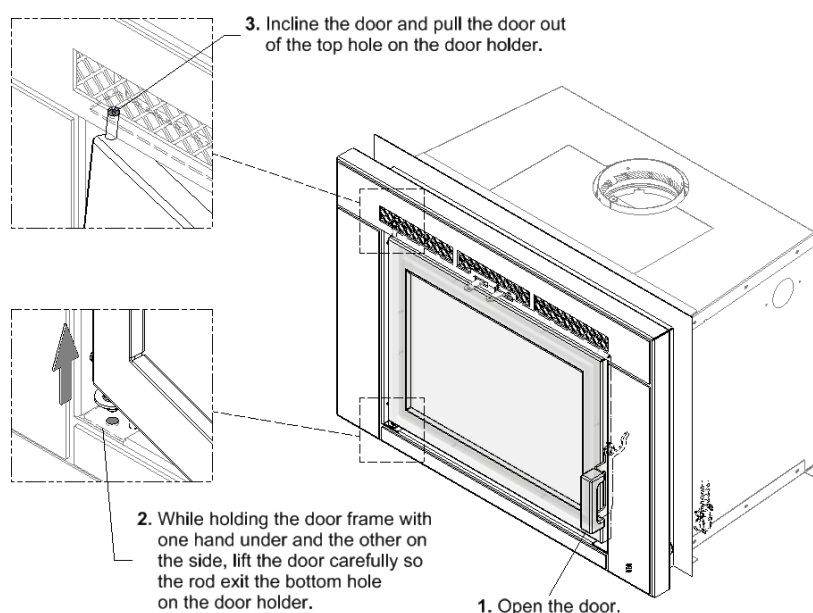

Figure 3-5: LUMIS Door Removal
- c) Remove the door as shown in Figure 3-5. Place the door face down on a soft surface aside and leave it there until the installation is finished.